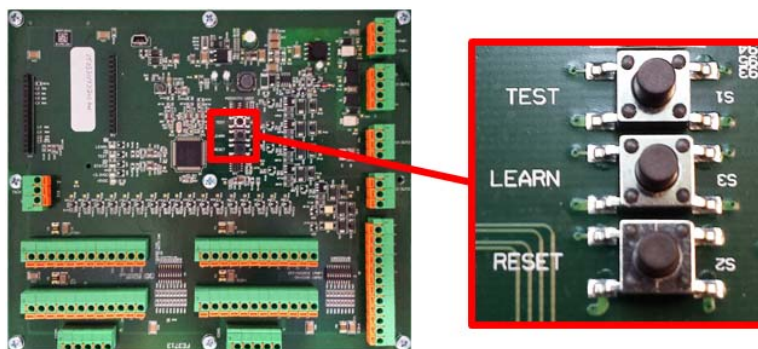

Figure 11 – Pushbutton Locations on Controller Board
- Push and release the learn pushbutton (see Figure 11 – Pushbutton Locations on Controller Board). The **LEARN** LED should start to blink.